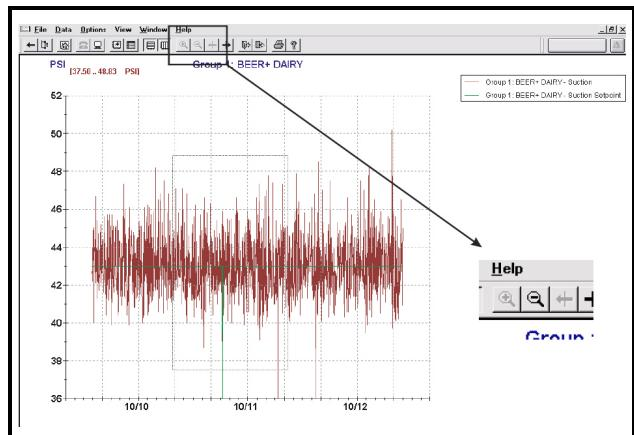

Figure 6-6 Graph View with Magnification Box Drawn; Zoom Out Button
4. To back out of the zoomed image, click on the zoom out icon (the magnifying glass with a minus symbol inside *Figure 6-6*).